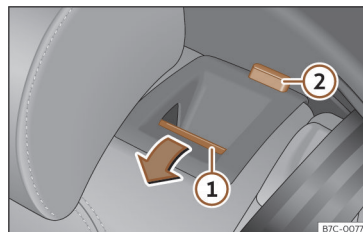

Fig. 102 Rear seat: folding the backrest.
- Pull the unlock button >>> **Fig. 102** ① forward and lift the backrest at the same time. The rear seat backrest is not engaged when the red marking of the button ② is visible.